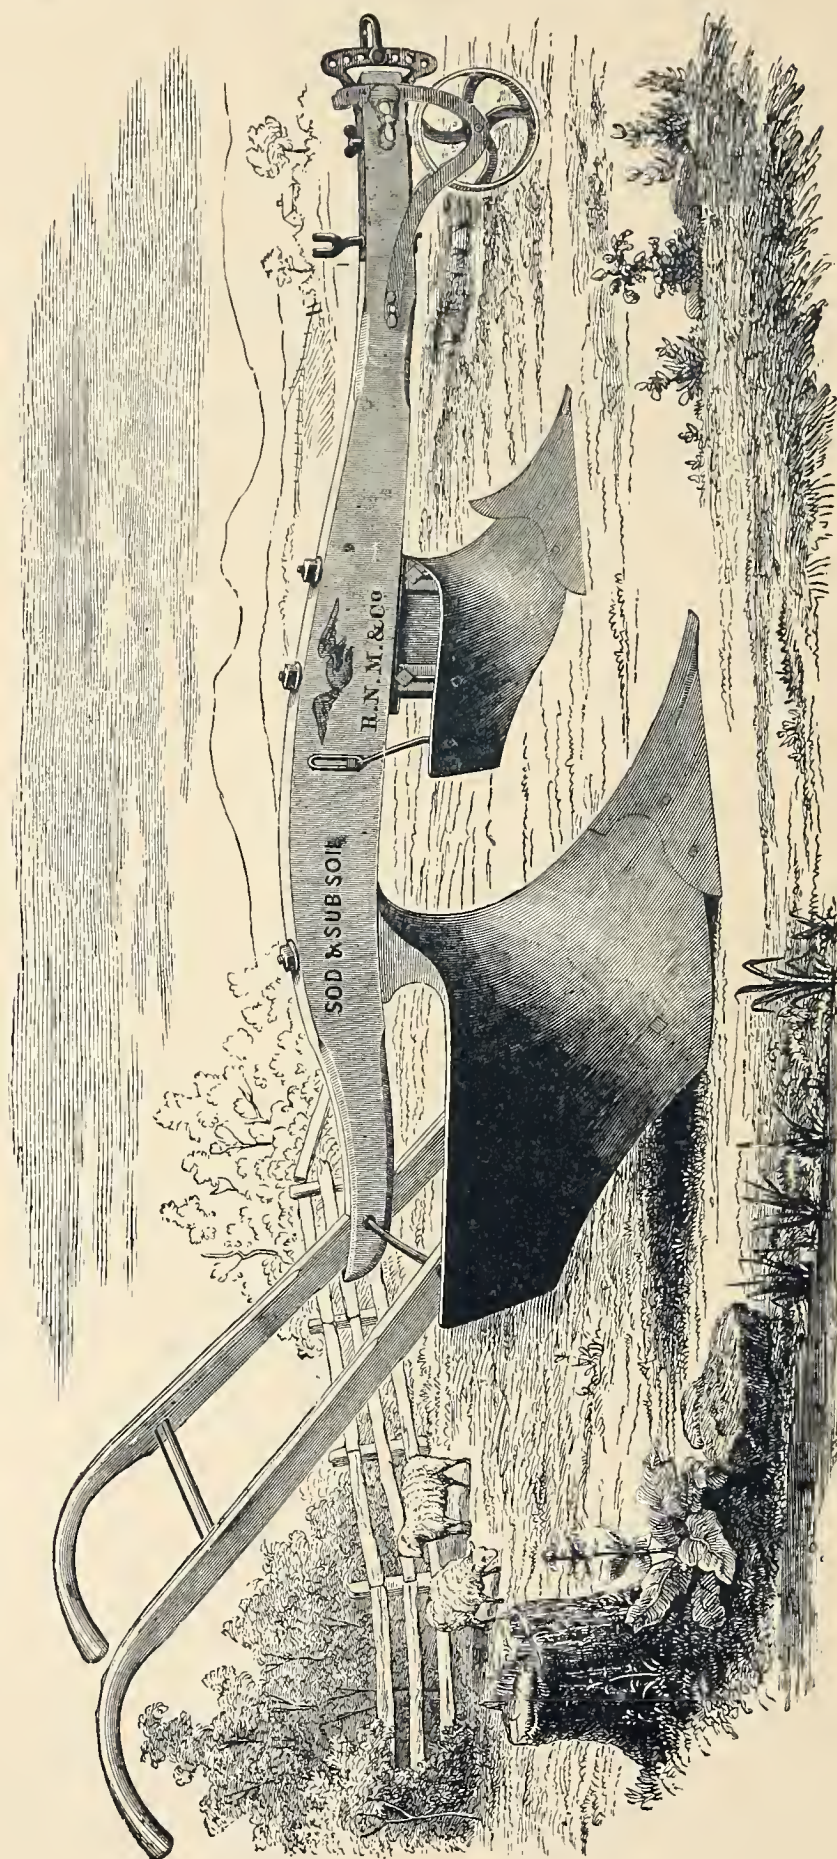
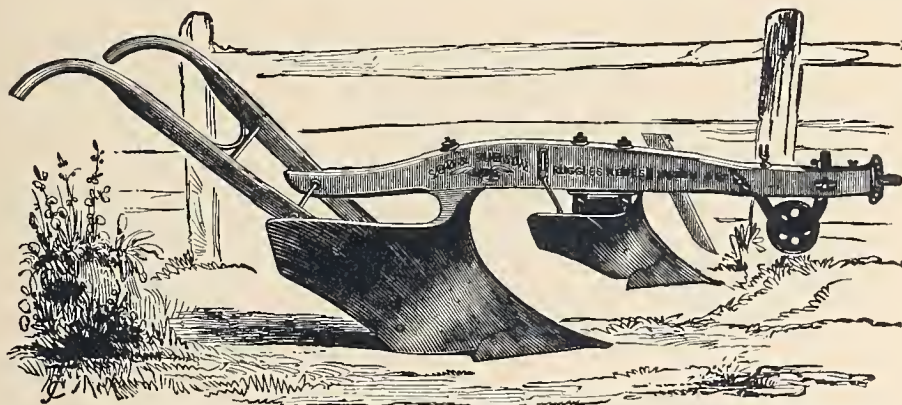

Fig. 261. — Eagle Deep-Tilling Sod and Subsoil Plow, No. 34.
Fig. 262.—Eagle Deep-Tilling Sod and Subsoil Plow, No. 34.
*Knox Improved Eagle Sod and Subsoil Plow, No. 34*, is represented by *Fig. 261*, and is substantially the same plow as described under STUBBLE PLOWS, with an adjustable forward mould-board connected with the beam in such a manner that the depth of its furrows can be regulated.
*Trimming.*—The plow is always trimmed with wheel; and customarily a short cutter is used, with common points, as shown in *Fig. 262*, instead of the fin-point, as shown by *Fig. 261*.